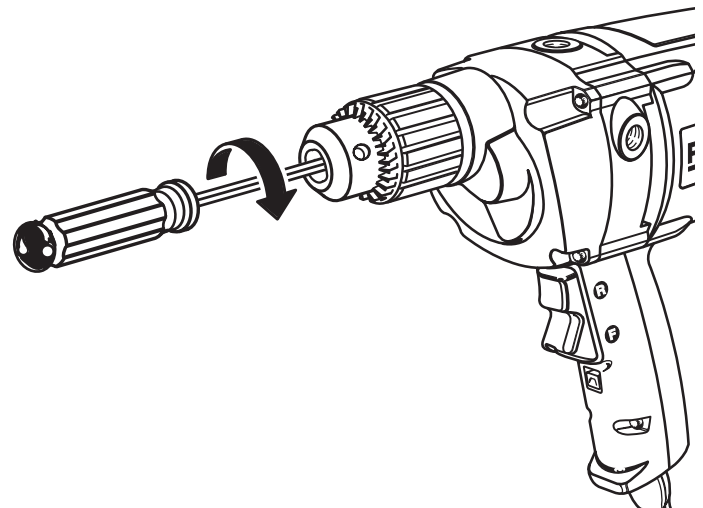

Fig. 11
- Open chuck jaws and remove hex key. Remove the chuck screw by turning it in a clockwise direction. See Figure 11.